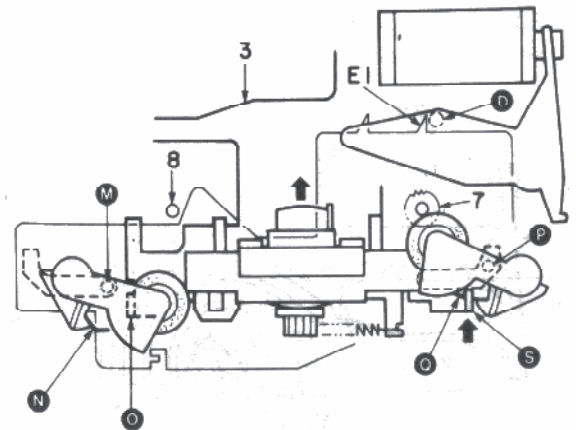

Fig. 7 (Perspective view from the front)
- 1-13) When the SUB-CHASSIS comes to the top, the spring (N) of the pinch roller (L) does not contact the SUB-CHASSIS edge (H) because the SLIDER is fixed in position of Fig. 7 by the pin (O) of the FD ARM, and the pinch roller is not pressed against the capstan because the boss (M) is held by the groove of the SLIDER.
- 1-14) Since the spring (Q) of the pinch roller (R) is pushed up by the SUB-CHASSIS edge (S) and the boss (P) is in the free section of the SLIDER groove, the pinch roller is pressed against the capstan and the FWD P/R operation starts.